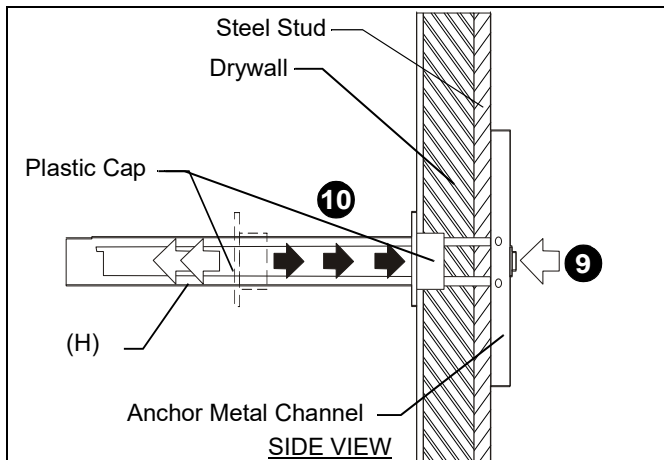

Figure 4
9. (Drywall/steel stud only) Holding plastic straps on anchor (H), pull anchor away from wall until channel rests flush behind wall making sure anchor channel is positioned vertically on stud. (See Figure 4)
10. (Drywall/steel stud only) Slide plastic cap on anchor (H) towards wall until flange of cap is flush with wall. (See Figure 4)